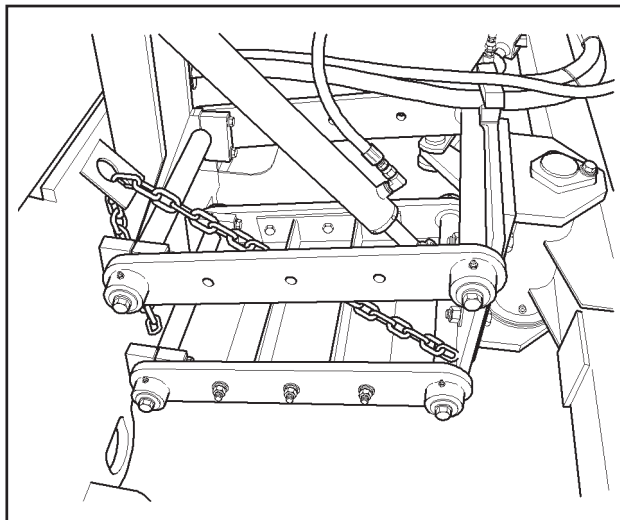

FIGURE 4-9. MECHANICAL BRUSH LIFT CYLINDER LOCK
15. Use the mechanical brush lift cylinder lock to secure brush in the raised position. (See Figure 4-9.) This will prevent a flat spot from forming on the brush bristles.